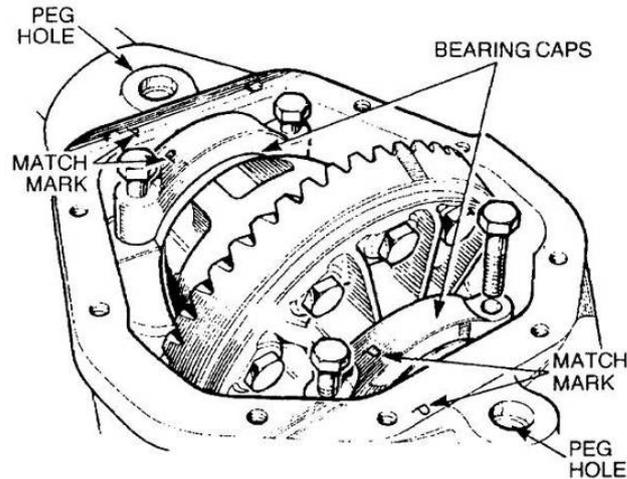

Figure 226 Match Marking the Bearing Caps
- f. Match mark the two bearing caps (Figure 226), remove the retaining bolts and lift out the bearing caps.